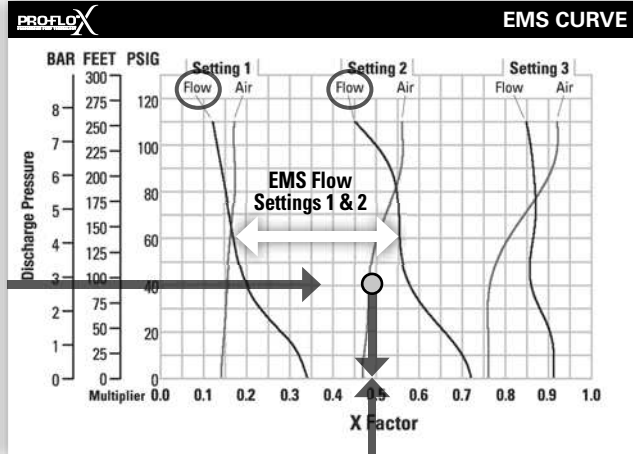

Figure 5
**Step 4: Determine EMS setting from the flow X Factor.** Plot the point representing the flow X Factor (0.49) and the application discharge pressure 2.8 bar (40 psig) on the EMS curve. This is done by following the horizontal 2.8 bar (40 psig) psig discharge pressure line until it crosses the vertical 0.49 X Factor line. Typically, this point lies between two flow EMS setting curves (in this case, the point lies between the flow curves for EMS setting 1 and 2). Observe the location of the point relative to the two curves it lies between and approximate the EMS setting (figure 5). For more precise results you can mathematically interpolate between the two curves to determine the optimal EMS setting.